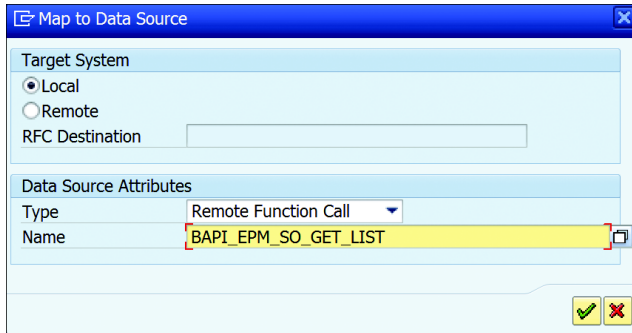

Figure 19.117 Map to Data Source
2. Enter the RFC for the DATA SOURCE, as shown in Figure 19.117.